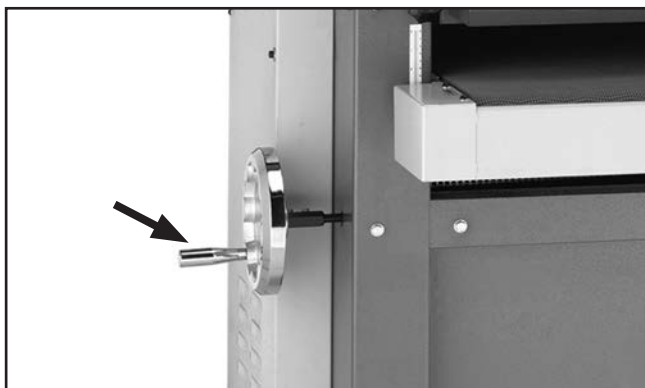

Figure 25. Table height handwheel.
1. Rotate the table height handle (**Figure 25**) until the table is too low, then raise the table, allowing a gap between the workpiece and the sanding drum.